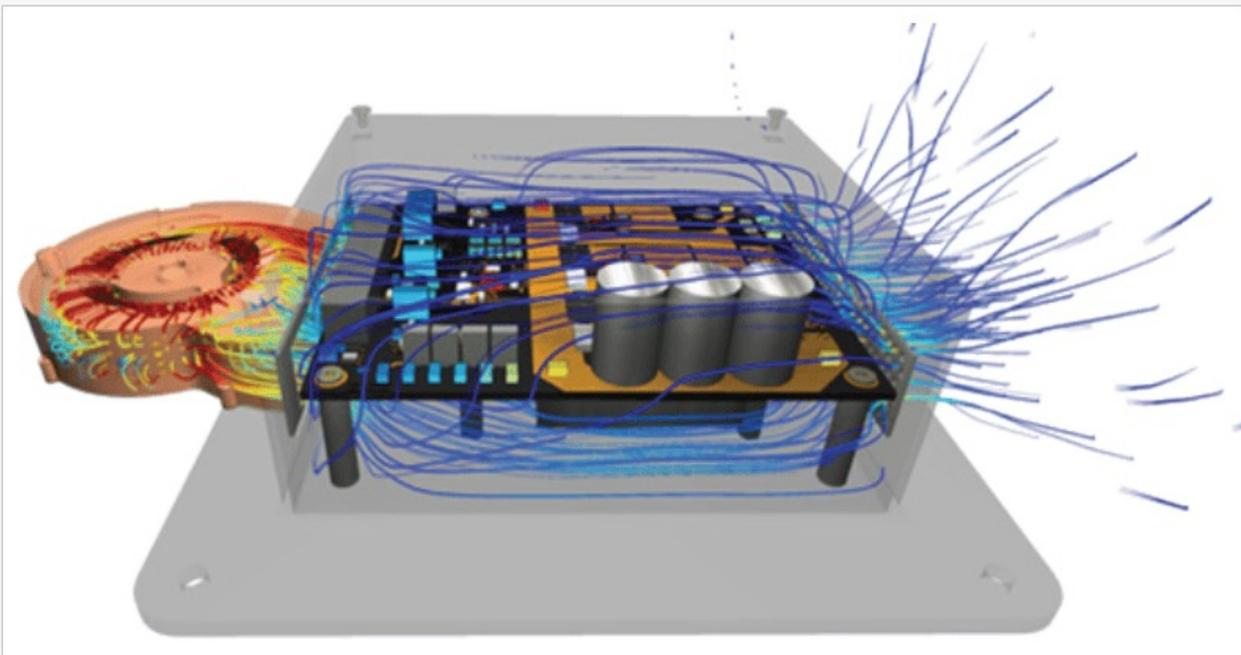

Figure 5: Airflow from rotating fan over PCB components, illustrating enhanced convective heat transfer
- **Fans and blowers:** Rotating devices (Figure 5) that drive airflow over heatsinks and components, considerably increasing convective heat transfer. They reduce the thermal boundary layer thickness (i.e., the thin region of fluid near a heated surface), which decreases resistance to heat flow between solid surfaces and adjacent fluid.